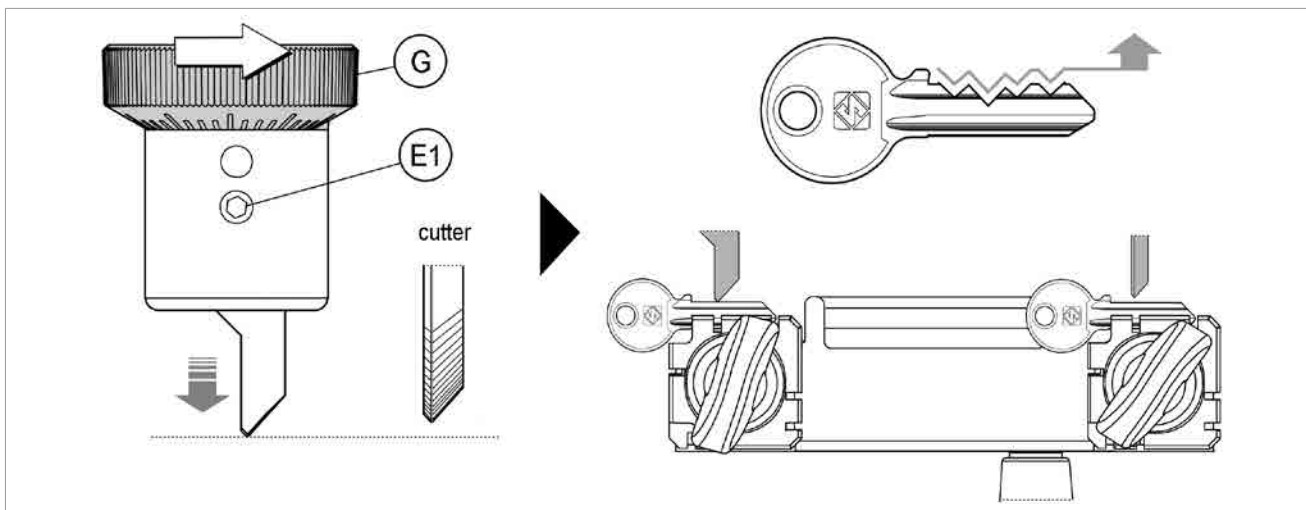

Fig.16
- b) turn the ring nut (G) clockwise to advance the tracer point (Fig.16).